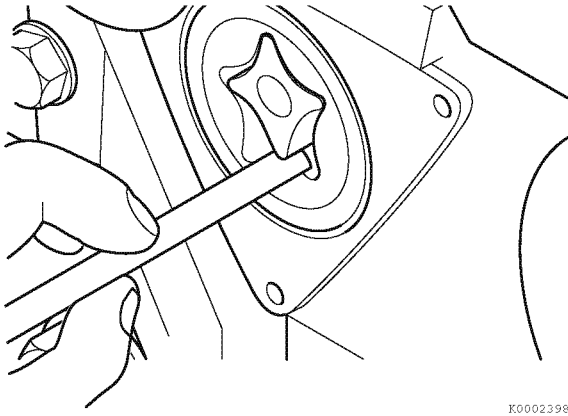

Figure 6-71
3. Use a feeler gauge to measure the inner rotor-to-outer rotor clearance (**Figure 6-71**). Record the measurement.